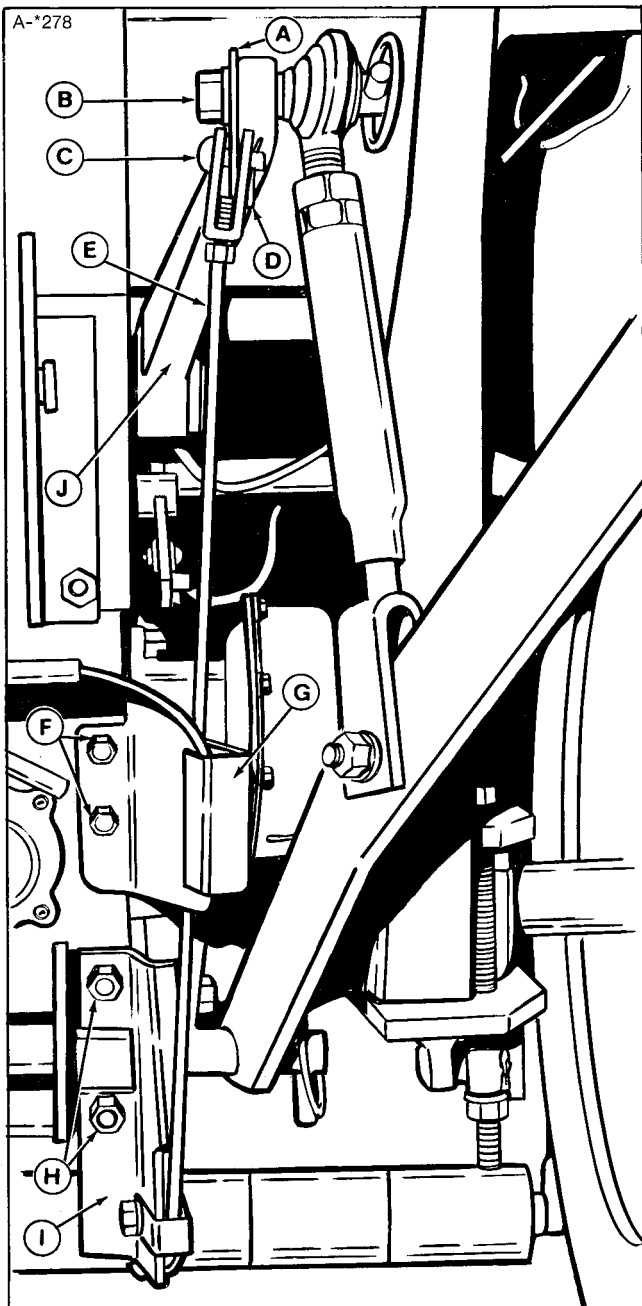
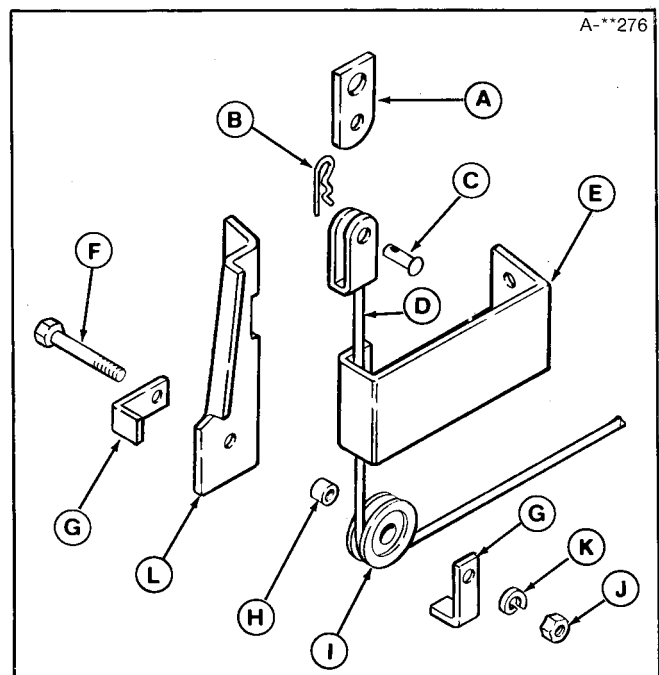

Figure 3. Lift Cable and Guards
Figure 4. Lift Cable and Guards
- Remove the nut and washer (B, figure 3). Position the lift link (A) at 90° angle to arm (J). Reinstall nut and washer (B).
- Connect the cable clevis to the lift link with the 1" pin (C) and spring clip (D).
- Remove the two capscrews (F), position the cable guard (G) as shown, then reinstall capscrews to secure.
- Place the cable (D, figure 4) on the pulley (I). Assemble the cap screw (F), belt stops (G), pulley (I) and bracket (L) as shown. Check assembly by referring to item I in figure 3.
- Remove the two nuts (H, figure 3), position the pulley mounting bracket (I) as shown, then reinstall the nuts (H).